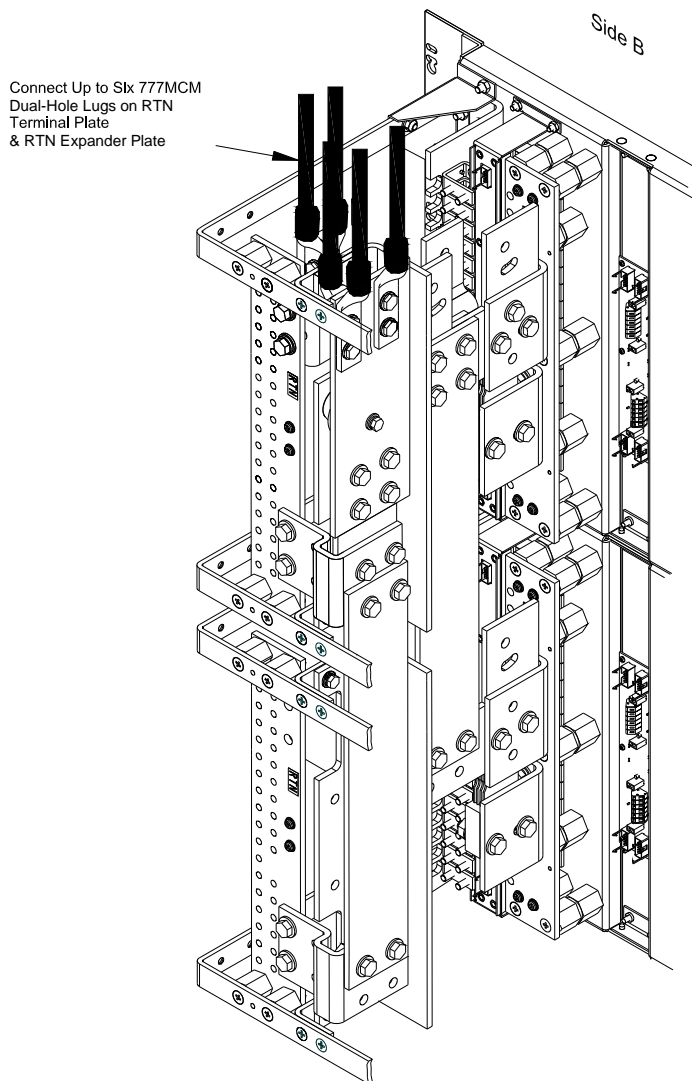

Figure 6 - Installing RTN Cables
15. You can connect up to two 777MCM cables/lugs to each of three RTN input sites. (Figure 6 shows three lugs on the main RTN terminal plate and two on the original plate.)
NOTE: Don't "piggy-back" (stack) lugs on top of each other. When connecting two lugs, the terminal and expansion plates must be "sandwiched" between the broad, flat bottoms of the lugs, as shown in Figure 6.